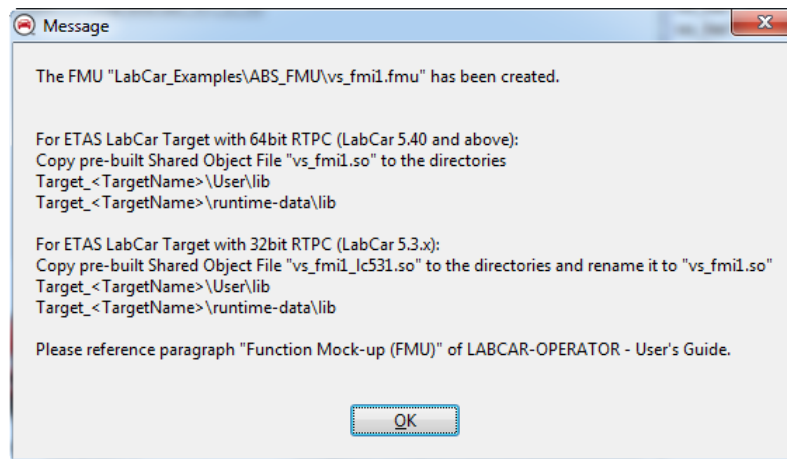

Figure 30. Confirmation message after generating FMU.
- Click “**Generate FMU**” to generate the FMU for this setting. And you get confirmation message as shown in Figure 30. Do not click the **OK** button yet. Leave this confirmation message on.
11. Follow the instruction in this confirmation message (Figure 30). You should have a vs\_fm1.so in the directory where you created the LabCar project. In this example, the